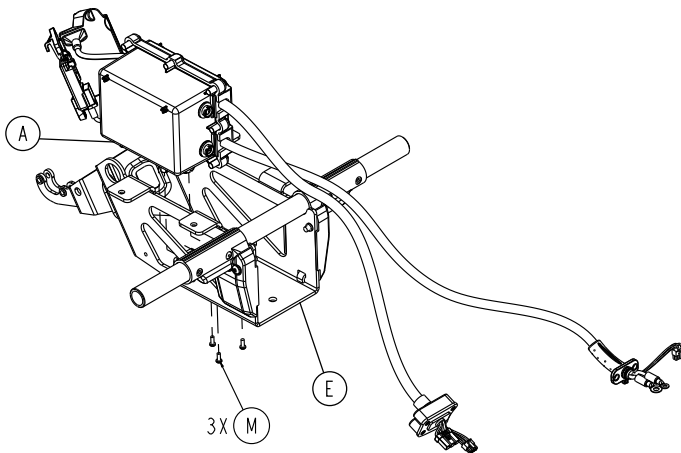

Figure 95 – Remove the HBC enclosure assembly screws
24. Using a T25 Torx driver, remove the three pan head tapping screws (M) that secure the HBC enclosure assembly (A) to the bird cage (E) (Figure 95). Save the screws.